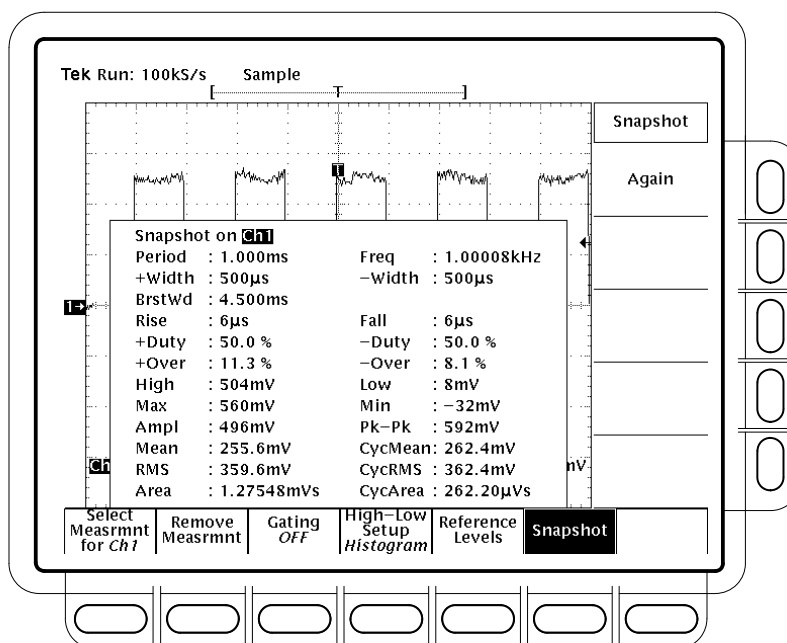

Figure 2–17: Snapshot of Channel 1
1. Press **Snapshot** (main) to pop up a snapshot of all available single waveform measurements. (See Figure 2–17.)
6. Press **SAVE/RECALL SETUP → Save Current Setup** (main) to display the Setup main menu. (See Figure 2–18.)